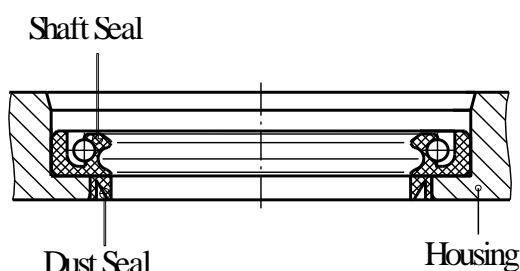

Fig.7
13. Remove with small screwdriver Dust Seal and Shaft Seal from housing (see Fig.7).